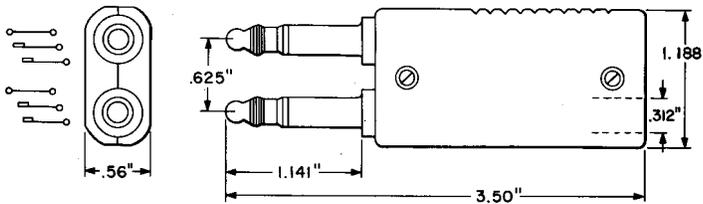

Fig. 1 — 425A-Type Plug
2.01 425A-Type: The 425A-type (Fig. 1) are twin, 3-conductor plugs generally connected to a single, 6-conductor cord. The shells are available in colors as listed in Table A. The 425A-type plugs are designed to be used with the 238-, 239-, or similar-type jacks and are used on the G10C hand set in the AUTOVON System.